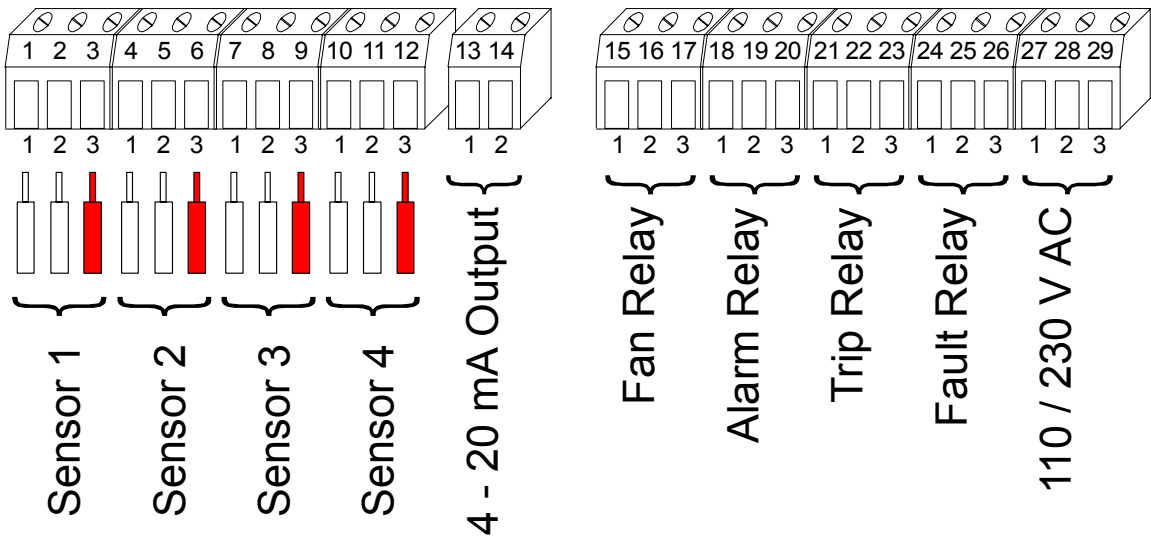

Figure 1. - Input / Output Connections
1. Short pin 1 and 2 of Terminal block provided for RTD Sensor of respective channel. See figure 1.